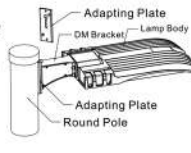

Figure 3-3
- 3: Notice: Round pole should be with adapting plate. (Figure 3-3)